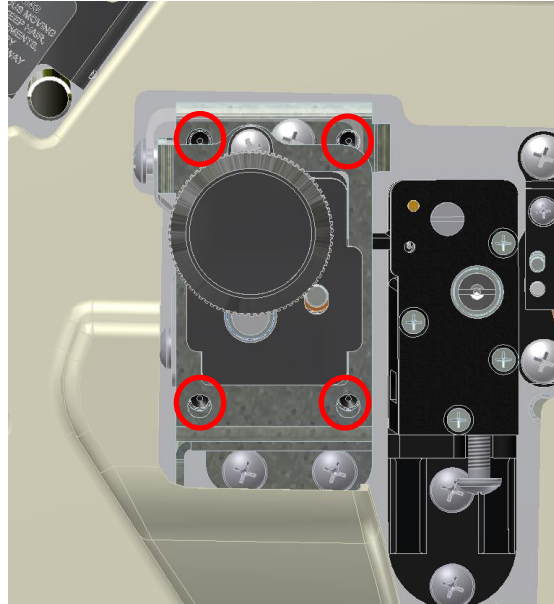

Figure 20a: Adjustment Set Screws
3. If there are no mechanical issues adjust Feed Assembly alignment by backing out adjustment set screws shown in figure 20a using a 5/32 Allen wrench until they stop on Feed Assembly frame. Note this only needs to be done until screws touch assembly, too much force will bend assembly frame.
5. Continue backing out adjustment set screws shown in figure 20a based on direction stock needs to track. Backing out screws on left will track web more inward (used when stock tracks towards front of machine). Backing out screws on right will track web more outward (used when stock tracks towards machine).